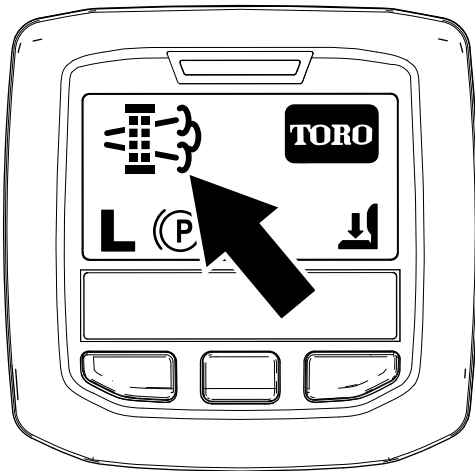

Figure 54
- When the engine computer requests either a parked regeneration or a recovery regeneration, the regeneration request icon (Figure 54) displays in the InfoCenter.